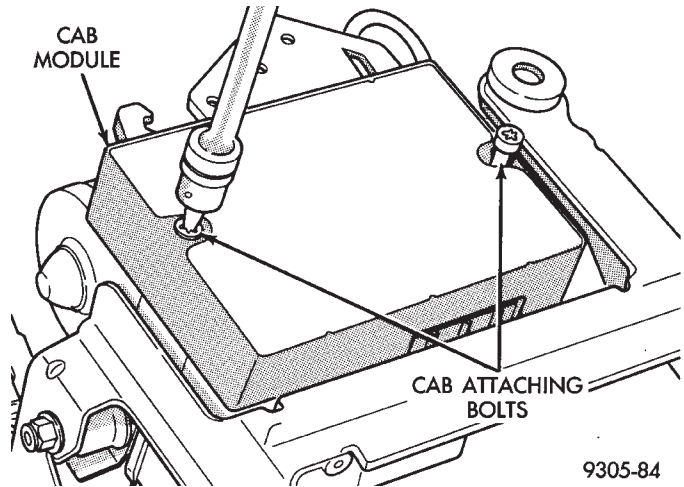
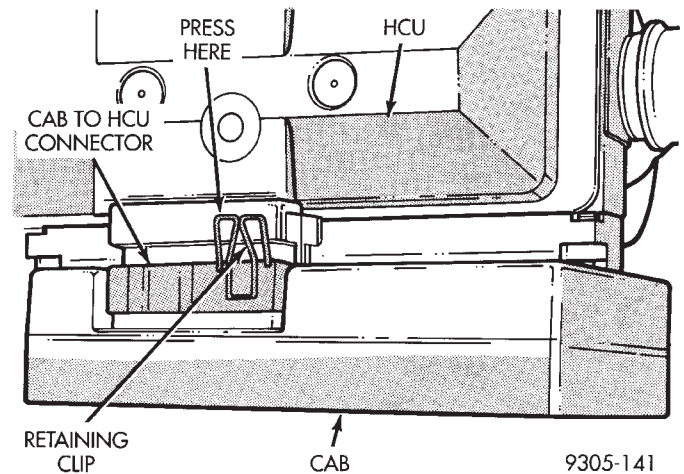
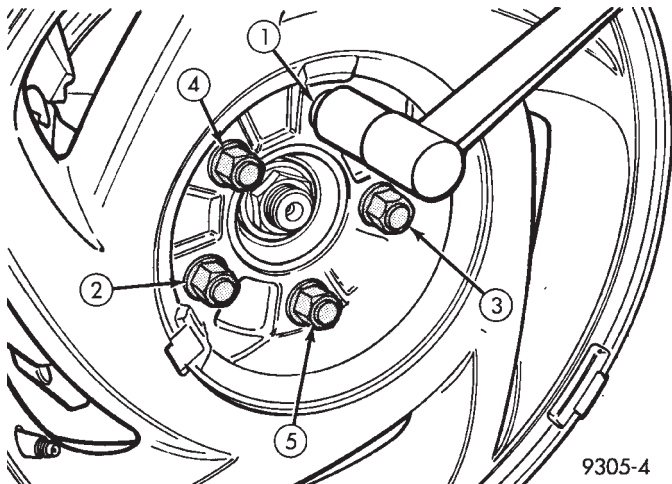

Fig. 2 (CAB) Removal And Installation At (HCU)
Fig. 3 (CAB) to (HCU) retaining clip
Fig. 4 Tightening Wheel Nuts
(1) Turn vehicle ignition switch to the off position and remove the key.
(3) Remove the 2 (CAB) module to (HCU) assembly mounting bolts (Fig. 2). Then press down on (CAB) to (HCU) retaining clip (Fig. 3) to allow for removal of the (CAB) from the (HCU).
(Fig. 3).
(2) Install the 2 (CAB) module to (HCU) assembly attaching bolts (Fig. 2). Torque the 2 (CAB) module to (HCU) mounting bolts to 12 N•m (106 in. lbs.).
(3) Install (HCU) assembly back in the vehicle. Refer to Hydraulic Control Unit Installation, in this section of the service manual for the required installation procedure.
(4) Bleed the air from brake hydraulic system. Refer to the Bleeding Teves Mark IV Anti-Lock Brake System in this section of the manual for proper bleeding procedure. **When bleeding brake system visually inspect all line fittings previously disconnected for any signs of leakage.**
(5) Install the left front tire and wheel assembly on vehicle. Install the wheel and tire assembly. Tighten the wheel mounting stud nuts in proper sequence (Fig. 4) until all nuts are torqued to half specification. Then repeat the tightening sequence to the full specified torque of 129 N•m (95 ft. lbs.).